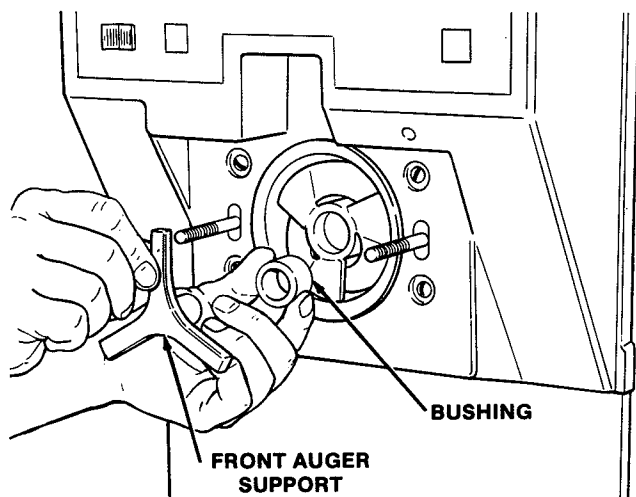

Figure 22. Removing Auger Support
- D. Remove the front auger support and bushing (Fig. 22).